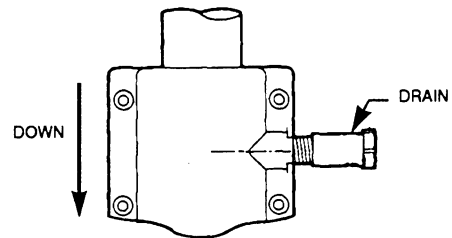

FIGURE 6
- 16. For vertical installations an ECD15 drain is recommended to drain water in the conduit system. The drain fitting is installed in the pour opening (top pipe plug opening) as shown in Figure 6.